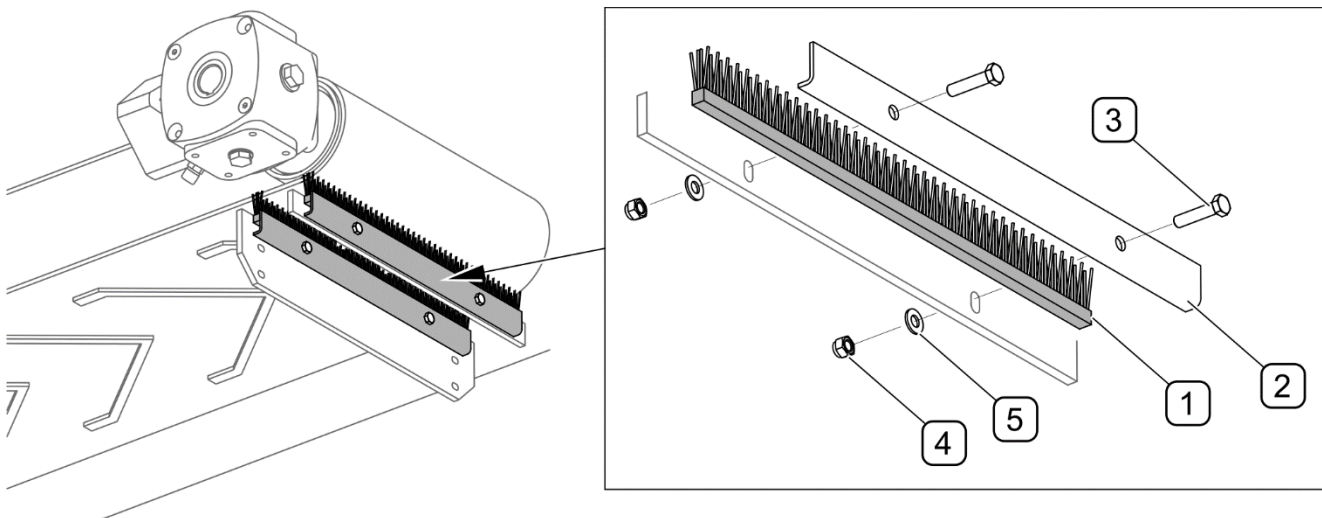

FIGURE 5.11 Replacement of conveyor belt brushes
- Unscrew bolts (3) and remove clamping strip (2) (FIGURE 5.11).
- Remove worn or damaged brush (1) and replace it with a new one.